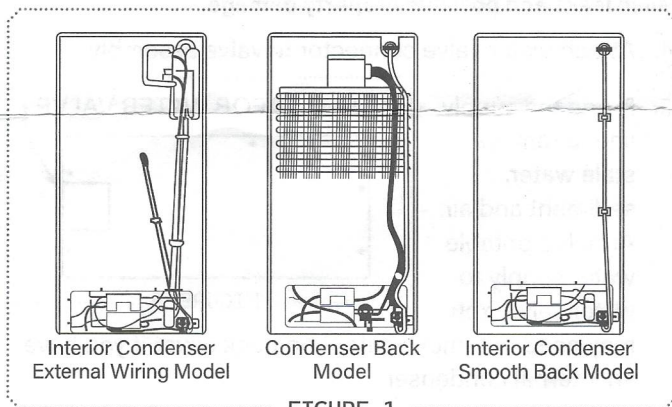

FIGURE 1
1. Identify the model style you are adding an ice maker to. See Figure 1